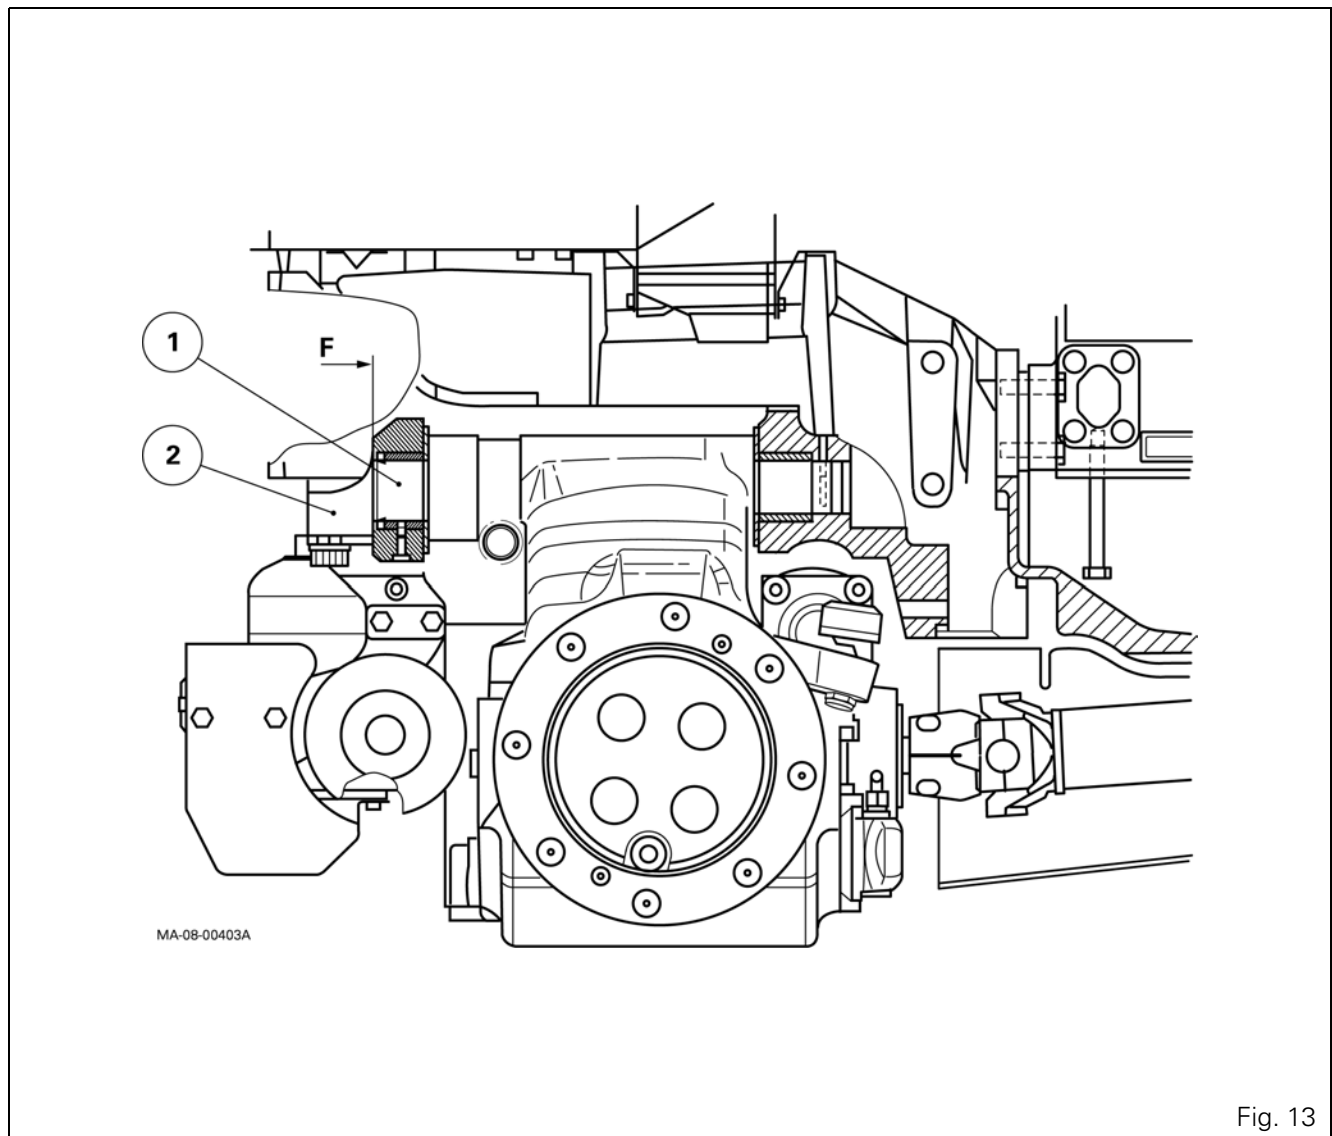

Fig. 13
- Check that the front face of the pivot pin (1) is almost flush with the front edge F of the bearing support (2) (Fig. 13).